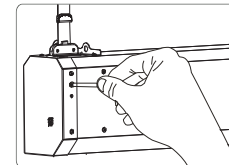

Figure 24
- a. Upper limitation adjusting. Take off the knob from the hole and use the provided allen key to adjust (figure 24).